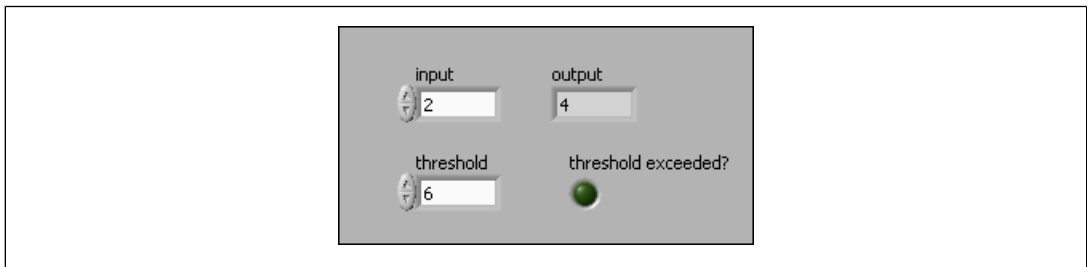

Figure 3. Changing the Labels
2. Rename the controls as shown in Figure 3.